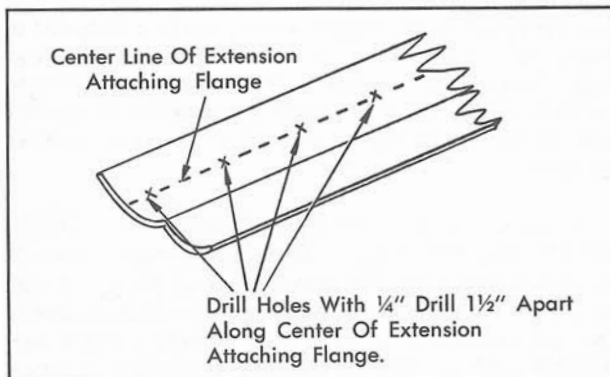

Fig. 17-73 Installation of Side Roof Rail Extension
1. Drill holes, approximately 1-1/2" apart, along the center of the new roof panel extension attaching flange with a 1/4" drill, Fig. 17-73.